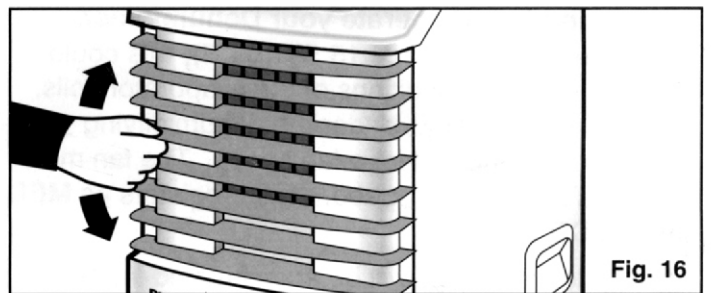

Fig. 16
- 8) To adjust "air flow" direction, (up / down only) adjust any one of the **Horizontal Louver Blades (excluding the top or bottom louver)** and the remaining louvers will automatically adjust to the set position (**excluding the top and/or bottom louvers**). Fig. 16.